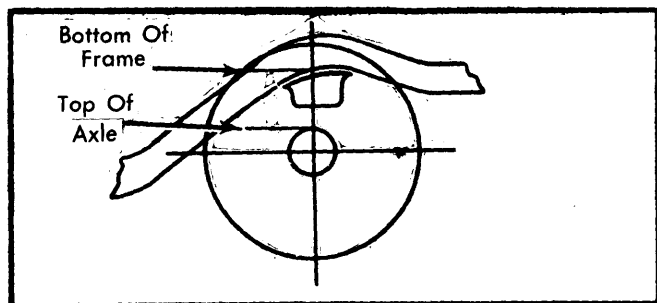

Fig. 1 Rear Suspension Riding Height Measuring Point
1) Place vehicle on smooth level surface. Bounce vehicle several times. Raise vehicle and allow to settle at normal height. Measure distance as shown in Fig. 1 and 2.